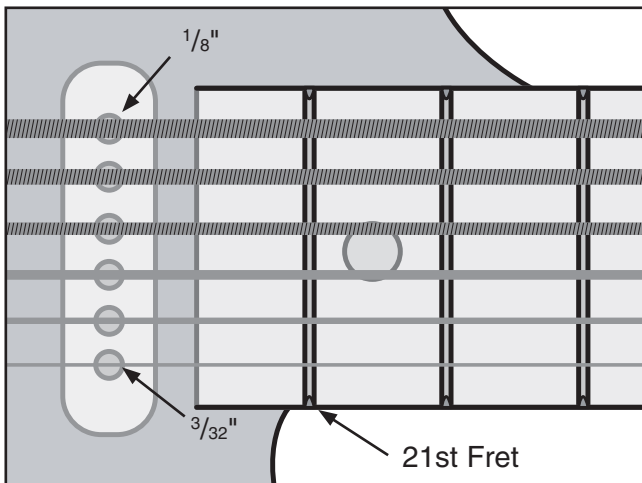

Figure 37. String heights over the pickup.
1. Measure the height of the 1st and 6th strings at the pickup while the strings are “fretted” at the 21st fret (**Figure 37**).